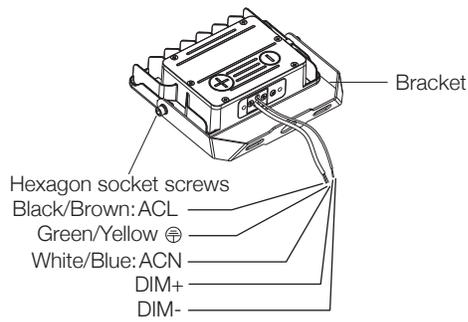

Fig. 3.1
5. Make the electrical connections according to the wiring diagram (Fig. 3.1).